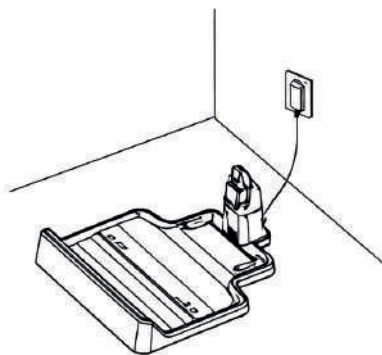

Fig. 14
2. Connect the charging base to a power outlet (see Fig. 14).